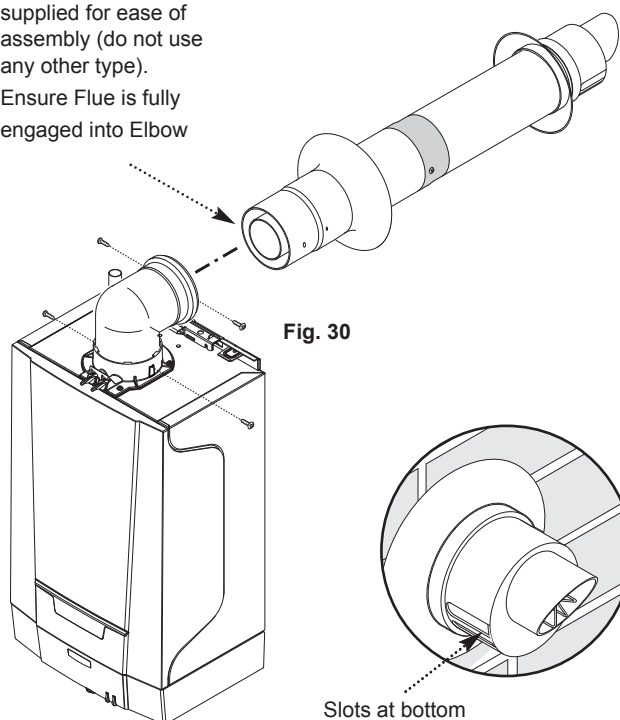
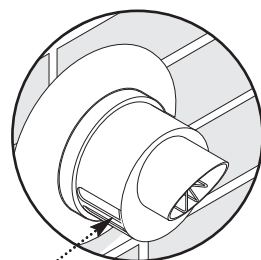

Fig. 30
Fig. 31
13. Draw the flue back through the wall and engage it in the elbow. It may be necessary to lubricate to ease assembly of the elbow and flue (Fig. 30).
14. Ensure that the terminal is positioned with the slots to the bottom (Fig. 31). Secure the flue to the elbow with the screws supplied (Fig. 30).